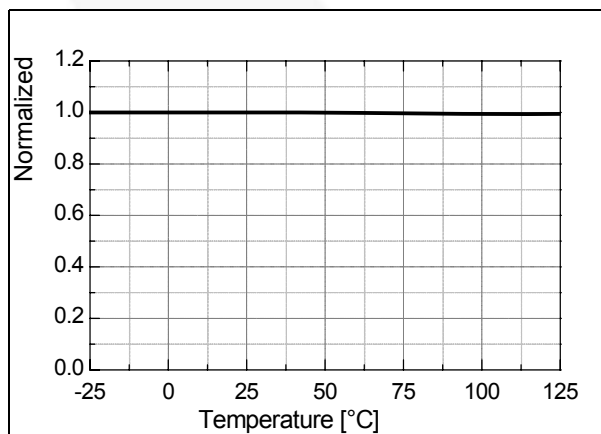

Figure 29. Sync High Threshold Voltage 2 (V_{SH2}) vs. T_A
4.1 Overload Protection (OLP): Overload is defined as the load current exceeding its normal level due to an unexpected abnormal event. In this situation, the protection circuit should trigger to protect the SMPS. However, even when the SMPS is in the normal operation, the overload protection circuit can be triggered during the load transition. To avoid this undesired operation, the overload protection circuit is designed to trigger only after a specified time to determine whether it is a transient situation or a true overload situation. Because of the pulse-by-pulse current limit capability, the maximum peak current through the SenseFET is limited, and therefore the maximum input power is restricted with a given input voltage. If the output consumes more than this maximum power, the output voltage (V_O) decreases below the set voltage. This reduces the current through the opto-coupler LED, which also reduces the opto-coupler transistor current, thus increasing the feedback voltage (V_{FB}). If V_{FB} exceeds 2.5V, D1 is blocked and the 5μA current source starts to charge CB slowly up to V_{CC} . In this condition, V_{FB} continues increasing until it reaches 6V, when the switching operation is terminated, as shown in Figure 29. The delay time for shutdown is the time required to charge C_{FB} from 2.5V to 6V with 5μA. A 20 ~ 50ms delay time is typical for most applications.